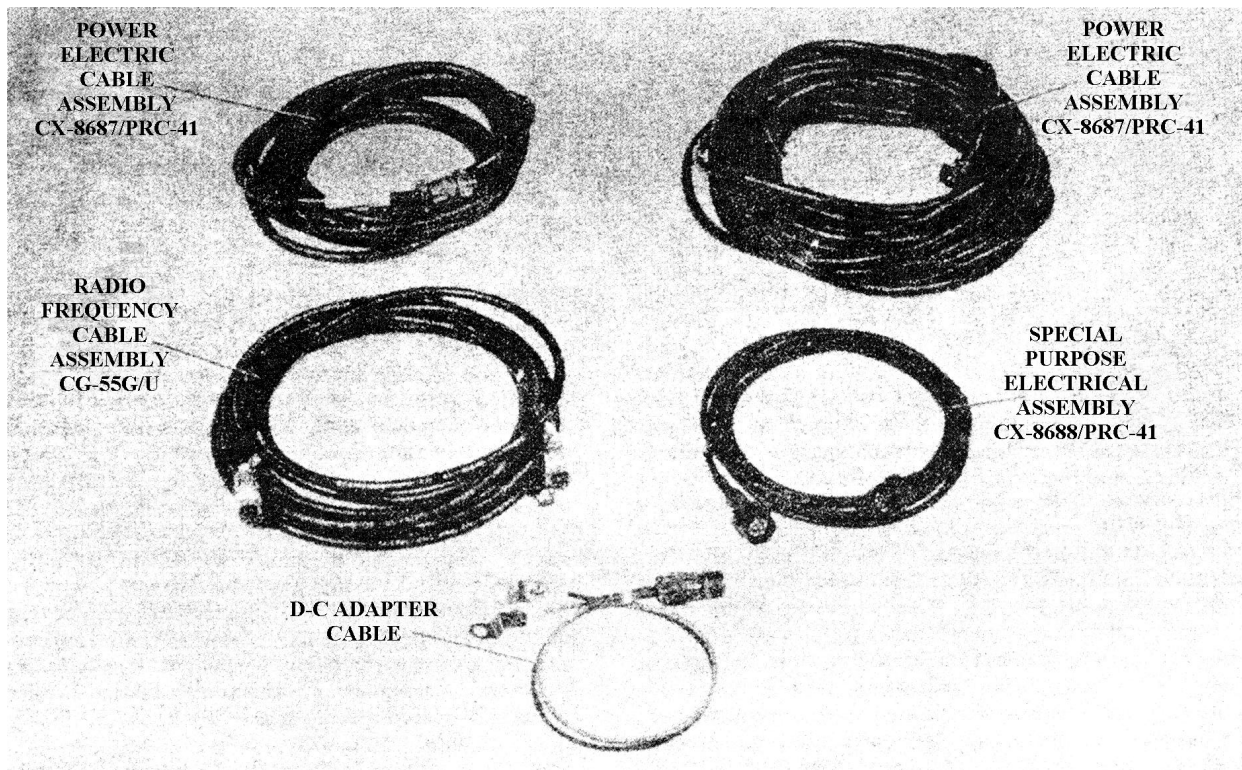

Figure 1-11. Cable Assemblies
(6) RADIO FREQUENCY CABLE ASSEMBLY CG-55G/U. - Refer to figure 1-11. Radio Frequency Cable Assembly CG-55G/U is a 20-foot length of RG-213/U coaxial cable with mating connectors. It is used for connection between the antenna connector on the front panel of Radio Receiver- RT-695/PRC-41 and Antenna AS-1405/ PRC -41.
(7) POWER ELECTRIC CABLE ASSEMBLY CX-8686/PRC-41. - Refer to figure 1-11. Power Electric Cable Assembly CX-8686/PRC-41 is a 20-foot length of three-wire electrical cable with mating connectors. It is used for connection of Power Supply PP-3700/FRC-41 to Mounting MT-2976/PRC-41.
(8) POWER ELECTRIC CABLE ASSEMBLY CX-8687/PRC-41. - Refer to figure 1-11. Power Electric Cable Assembly CX-8687/PRC-41 is a 50- length of three-wire cable
(9) SPECIAL PURPOSE ELECTRICAL CABLE ASSEMBLY CX-8688/PRC-41. - Refer to fig. 1-11. Special purpose Electrical Cable Assembly CX-8688/PRC-41 is a 10-foot length of seven- cable having suitable mating connectors. It is used to connect one of the AUDIO connectors on one Radio Receiver-Transmitter RT-695/PRC-41 to one of the AUDIO connectors on another RT-695/ PRC-41 for automatic relay operation. Refer to paragraph 2-4d.
(10) D-C ADAPTER CABLE. - Refer to fig. 1-11. The d-c adapter cable is a two-wire cable used in a vehicular installation to connect power between the vehicle d-c power source and the rear connector of Mounting MT-2976/PRC-41 through Power Electric Cable Assembly CX-8688/PRC-41.